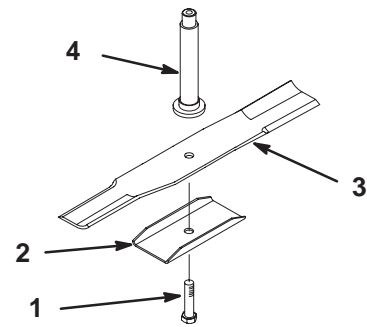

Figure 29
2. Remove the bolt, stiffener, and blade (Fig. 29).
2. Install the blade, stiffener, and the blade bolt (Fig. 29).